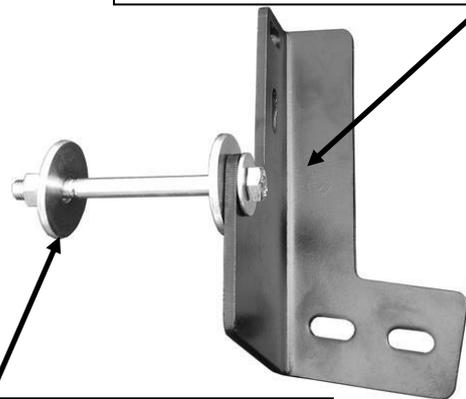

Fig 4
- Select (1) 12mm Spacer Washer. Insert the 12mm Spacer Washer between the Mounting Bracket and the frame channel, **(Figures 3, 4 & 7)**. Insert (1) 10mm x 120mm Hex Bolt and (1) 10mm x 30mm OD Large Flat Washer through the oval hole in the Mounting Bracket, the Spacer Washer and into the large hole in the end of the frame channel, **(Figures 4, 5 & 7)**. Place (1) 12mm Spacer Washer over the 10mm Hex Bolt covering the opening in the back of the frame channel. Secure the Hex Bolt to the frame channel with (1) 10mm x 20mm OD Small Flat Washer, (1) 10mm Lock Washer and (1) 10mm Hex Nut, **(Figures 4, 6 & 7)**. Snug but do not tighten all of the hardware. Repeat **Steps 1 – 2** for passenger side Mounting Bracket installation. Reinstall the factory tow hook removed in **Step 2**.